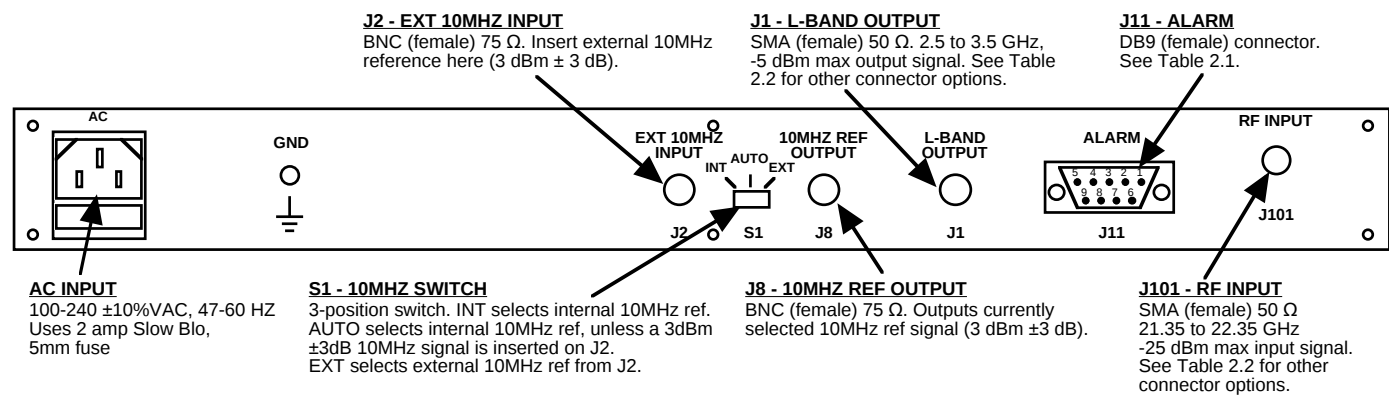

FIGURE 2.1 2116-222 Rear Panel I/O's
Figure 2.1 shows the input and output connectors on the rear panel.
1. Connect a -45 dBm to -25 dBm signal to RF INPUT, J101 (Figure 2.1).
5. Select either INT (for internal 10MHz ref), AUTO (for internal 10MHz ref UNLESS an external 10MHz, 3 dBm signal is connected to J2), or EXT (for external 10MHz, 3 dBm ref that is inserted at J2) on rear panel switch S1 (Figure 2.1).
7. Check that a 10MHz, 3 dBm $\pm$ 3 dB signal is present at the 10MHZ REF OUTPUT (J8) (Figure 2.1).